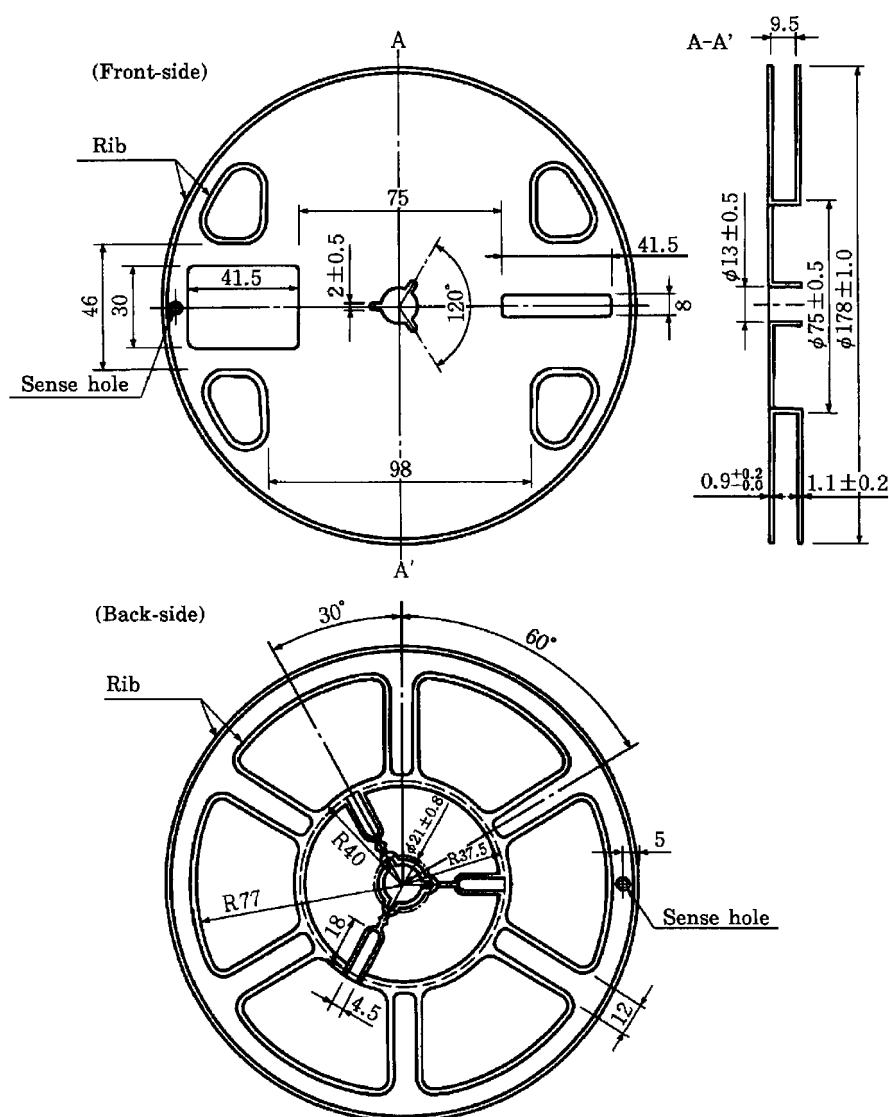

Figure 2
3.1 The reel dimensions are per Figure 2.